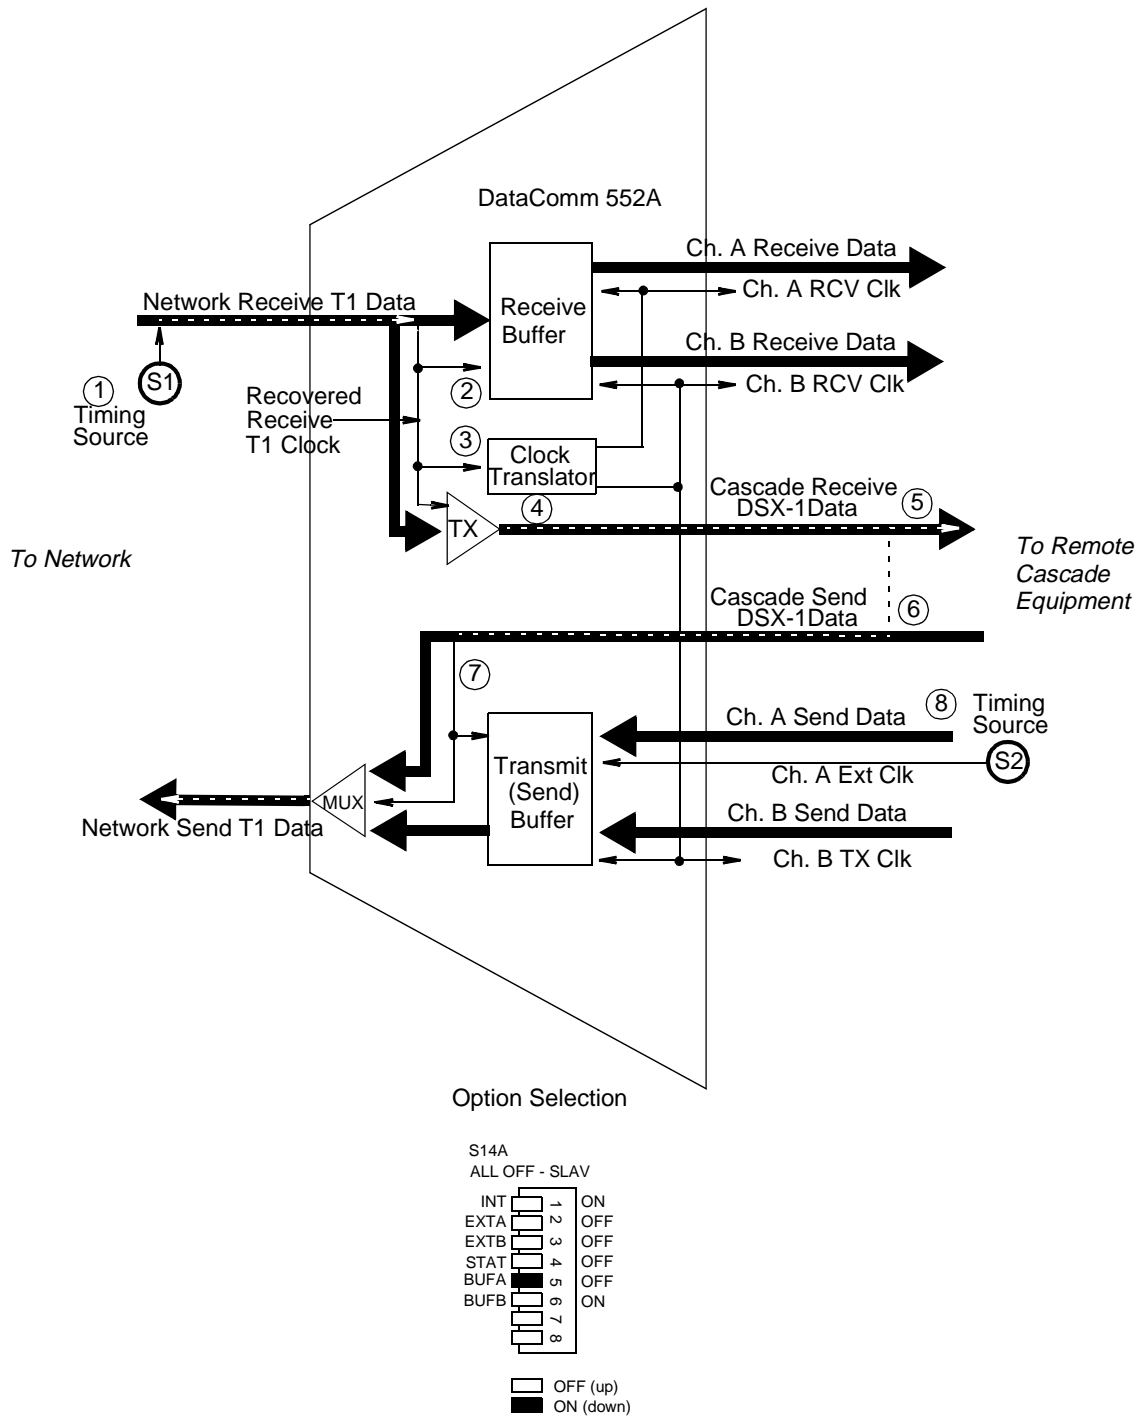

Figure B-12 Cascade/Channel A Split Timing
Cascade/Channel A Split Timing - Cascade/Channel A Split Timing, illustrated in Figure B-12, is a combination of Cascade Timing and Channel A Split Timing. As in Cascade Timing, the network (or a device at the remote end) provides the timing source (1). The DSU recovers the receive T1 clock from the network receive T1 data and uses it to clock T1 data into the receive buffer (2) and into the cascade port transmitter (3). The DSU also translates (4) the receive T1 clock to provide the channel transmit clock signal for Channel B and the receive clock signals for both channels, on the appropriate interface leads for each channel. The DSU extends the network receive T1 data stream to the remote equipment connected to the cascade port, which uses this as its timing reference (5) and loops it back to the DSU (6). The DSU recovers the receive T1 clock from the cascade send DSX-1 (Digital Service Cross-connect, Level 1) data and uses it to multiplex the DSX-1 data with channel data and to provide the send timing source for T1 data output from the transmit buffer (7) to the network. As in Channel A Timing, the customer equipment on Channel A provides the other timing source, its own channel transmit clock signal (8) on the appropriate interface lead, but the DSU uses it for nothing else.